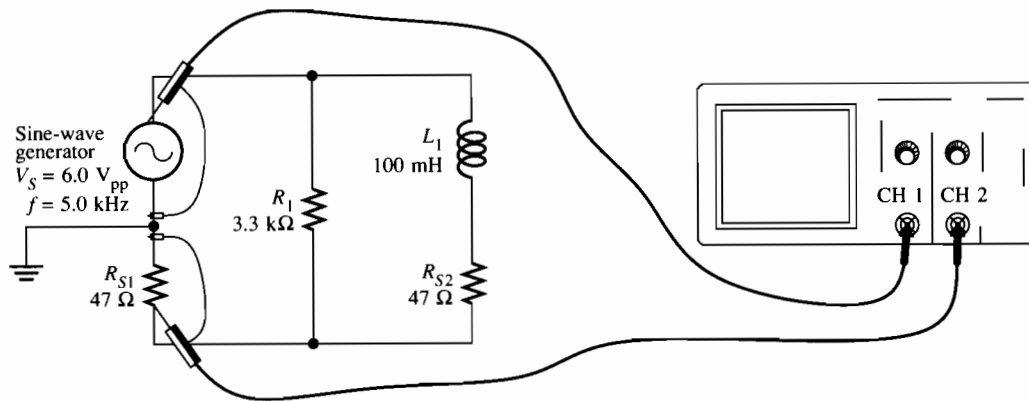

Figure 26-3
- In this step, you will measure the phase angle between the generator voltage and current. This angle is approximately equal to the angle between I_T and I_R as shown in Figure 26-1. (Why?) Connect the oscilloscope probes as shown in Figure 26-3. Measure the phase angle using one of the methods in Experiment 25. The signal amplitudes in each channel are quite different, so the vertical sensitivity controls should be adjusted to make each signal appear to have the same amplitude on the scope. Record the measured angle between I_T and I_R in Table 26-2.